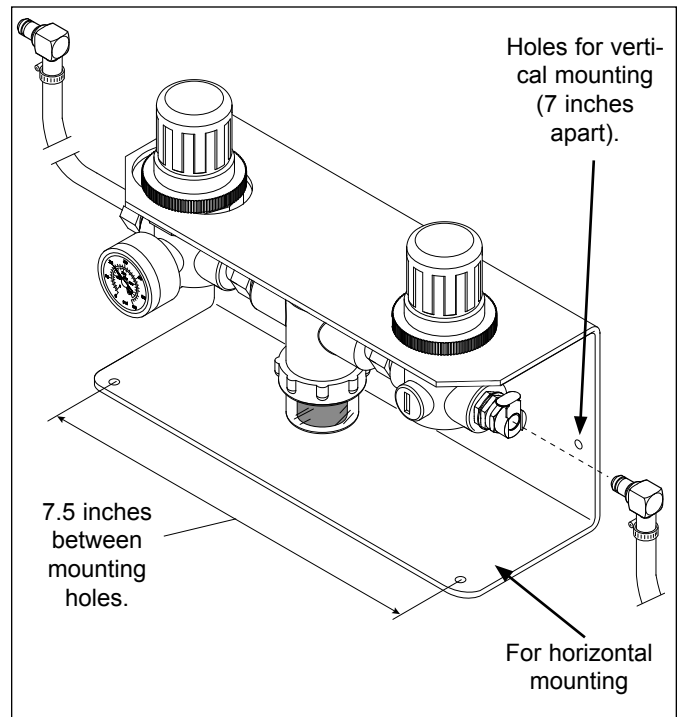

Figure 4. Mounting Options
- On a vertical surface (Figure 4)
- On a horizontal surface (Figure 4)
- Free-Standing (not mounted) (Figure 4)